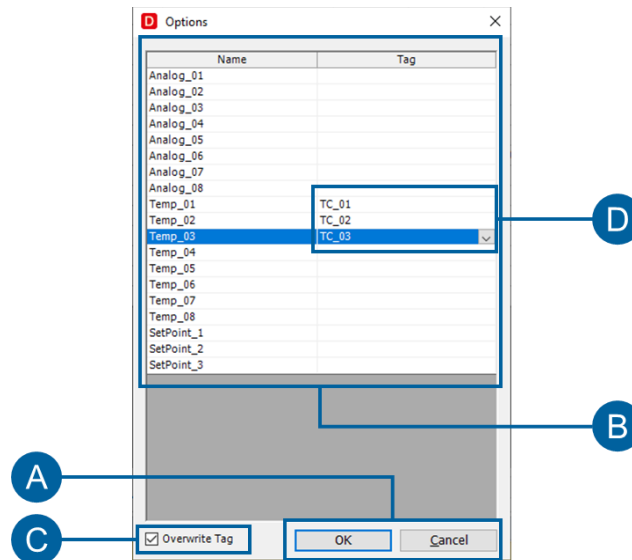

Figure 16. Calibration Import
- Select the file in which the calibration was previously saved. After opening the file, Figure 16 appears.
- You can then choose whether or not to overwrite (C) the calibration tags of the project you are working on. The choice to overwrite the TAGs is to keep track of the reference to the original project.